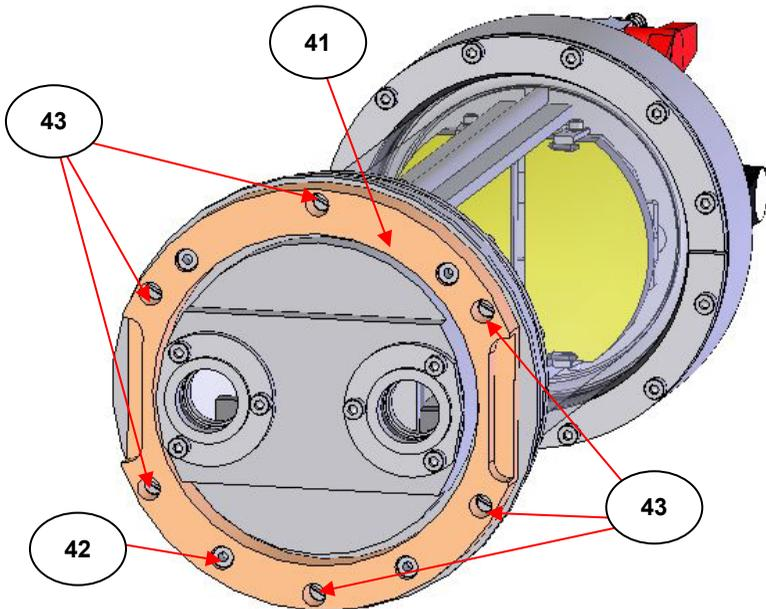
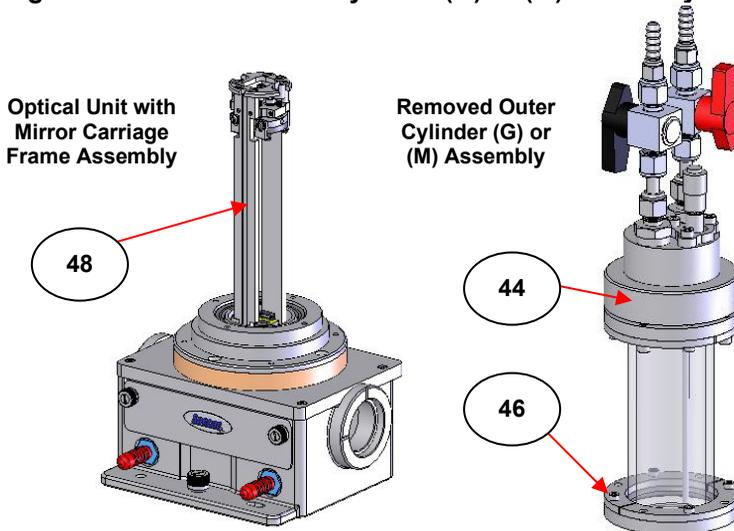

Fig 26. Underside View of C10 Cell Separated from Optical Unit (1) and with Windows Sealed in Position
Fig 28. C2 Gas Cell Outer Cylinder Removed from Optical Unit
Additionally, on the PEEK ring (41) there are **four** slot head M4 x 10mm screws (43) on a C5 Cell and **six** slot head M4 x10mm screws (43) on C10 cell. (See Fig 26). To convert the gas cell for use in an **LR** beam direction spectrometer from **RL** (or vice versa), undo the four/six slot head screws (43) that will allow for separation of the PEEK ring (41) from the base of the gas cell body assembly. When the PEEK ring is separated, rotate the PEEK ring through 180° and then re-secure it back to the base of the gas cell body by tightening the four/six slot head screws (43) back into position. The pattern of four retaining nuts (42) on the PEEK ring will be inverted. When the gas cell body assembly is reattached through the pattern of holes on the top surface of the optical unit (1) using the four M4 x10mm fixing screws (34), the gas cell will have been converted to use within an opposite beam direction spectrometer.
To gain access to the mirror frame assembly inside the gas cell, the outer surrounding gas cylinder (44) of a (G) or (M) body cell is removed. For the C2 size cell this is achieved by unscrewing and removing the four lower M4 x 20mmscrews (45) **only** to the lower flange ring clamp plate (46) that holds the gas cylinder in position. (**Do not** undo the M3 x 10mm screws (47) on the ring clamp plate (46)). (See Fig 26.) Lift off vertically the C2 gas cell outer cylinder assembly (44) away from the optical unit (1) and mirror carriage frame (48). It is possible the cylinder assembly (44) may be stuck to the lower sealing O-ring (49) within the gas cell chamber, but by careful manipulation of the cylinder assembly (slight rocking and twisting of this assembly against the lower sealing O-ring), it can be lifted up and away. You will be left with two separate assemblies of parts as seen at Fig 28.